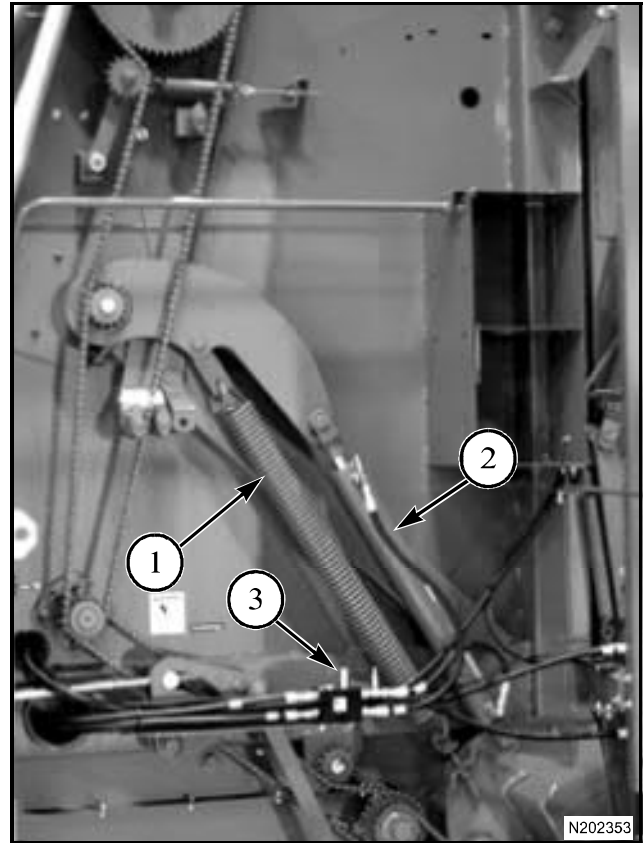

FIG. 8
FIG. 8: The bale density is controlled by two springs (1) and a hydraulic tension system. As the bale increases in size, oil is forced from the rod end of the forming belts tensioning cylinder (2) through a non-adjustable relief valve (3) to the base end.